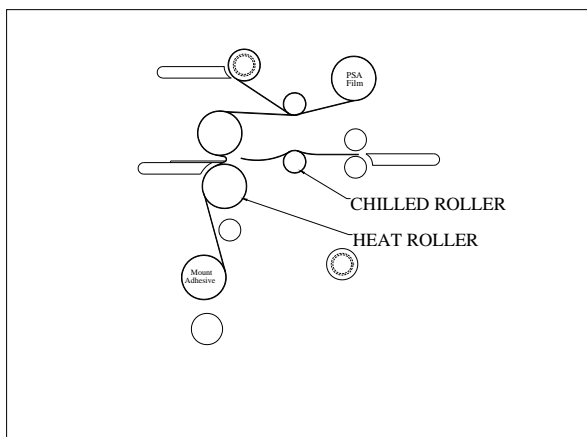

FIGURE 24
8. Insert the table back to its feeding position while ensuring the threading card is on top of the feed table (Fig. 24).